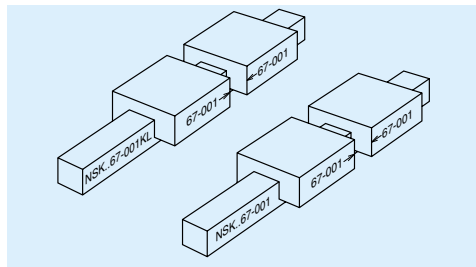

Fig. II-9-30 When two rails have different reference number
- When two or more rails of different reference number are used in a single set, the rails and ball slides have the same serial number. In this case, when ball slide is removed from the rail, it is confusing which rail each ball slide was previously installed. When removing ball slides from the rail for an unavoidable reason (Fig. II-9-30), sufficient precaution is required.